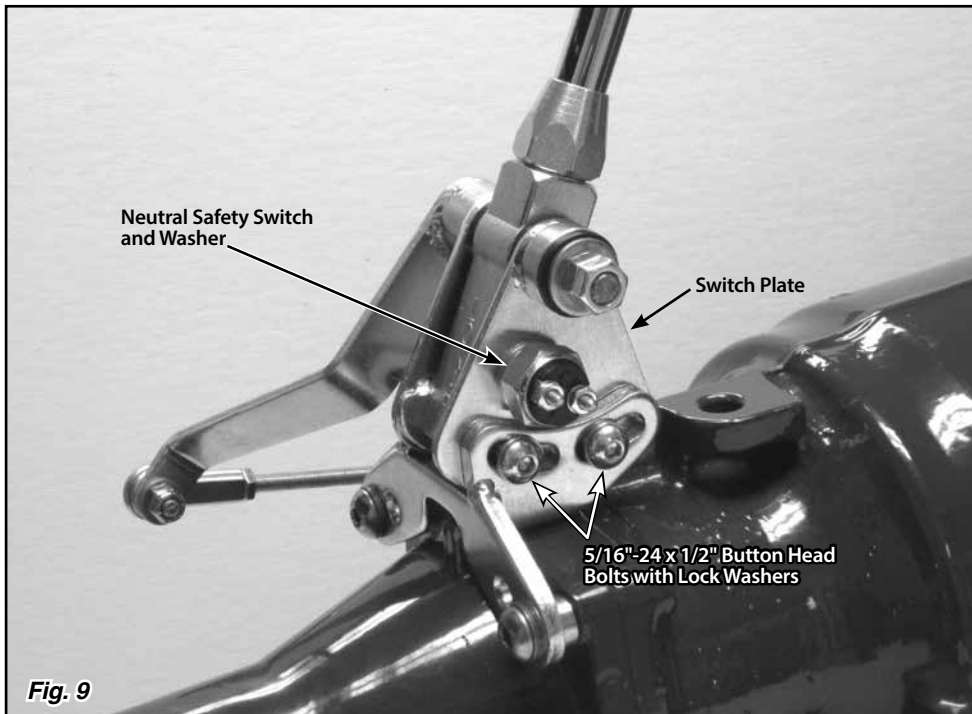

Fig. 9
**Step 14:** Remove the neutral safety switch and washer (**Fig. 9**) from the passenger side of the Shifter using a 7/8" wrench or socket.
**Step 15:** Loosen, but do not remove, the two 5/16"-24 x 1/2" button head bolts that connect the passenger side banana bracket to the switch plate (the bolts are in curved, slotted holes). **Fig. 9**